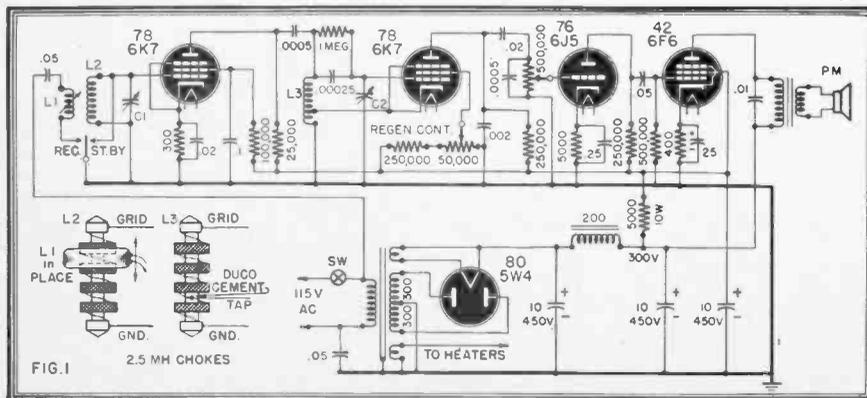

Fig. 1—Coils for the 200-kc. receiver are constructed from 2.5-millihenry R.F. chokes.
The receiver, shown in Fig. 1, uses a regenerative detector, one stage of R.F. and two stages of audio. It is built on a 7 x 7 x 2 chassis in a plywood cabinet with Masonite panel.
**B**ECAUSE of the difficulty of designing a loud-speaker which will function efficiently over a wide frequency range, it has been common practice in FM radios and movie sound work to use a "woofer" for the lower frequencies and a "tweeter" for the highs. The tweeter is generally a low-power unit since the high frequency sound energy is small in comparison with the low. The woofer is a rugged, heavy-duty unit. The job of dividing the electrical energy into two paths falls to the dividing network. A simple type of network is shown in Fig. 1. R is the voice coil resistance or speaker resistance in ohm, C is the capacity in farads and  $f_x$  is the crossover frequency in cycles. L is the inductance in henries.
The circuit action is easy to visualize. A condenser is connected in series with the high-frequency speaker. Since condenser reactance decreases as frequency rises more high frequency current gets through to the tweeter than low frequency current, thus favoring the highs so far as the tweeter is concerned. Also note that in Fig. 1 a coil is connected across the high frequency speaker terminals. Thus the shunt current through the coil will be greater at the lower frequencies, since the coil has low reactance at these frequencies. As the frequency rises the coil current is decreased and the current in the high-frequency speaker rises. The opposite action occurs so far as the low frequency or woofer speaker is concerned. It has a condenser in parallel with it. The shunt reactance of the condenser decreases as the frequency is raised, shunting away an ever greater amount of current from the woofer at higher and higher frequencies.
Still another form of dividing network is shown in Fig. 2. The action here is somewhat the same as in Fig. 1, but note that as  $X_c$  decreases not only is there less opposition to the flow of high frequency signal current in the tweeter, but also an increased shunting of high frequency current away from the woofer—through the condenser and tweeter. The choke coil L opposes the high frequency current but offers relatively little opposition to the lower frequencies. Note that, looking into the input terminals of this network at a particular frequency, we may run into parallel resonance. At such a frequency the load on the source connected to the input will drop and the output voltage of the source will rise, which may cause feedback and oscillation in an amplifier system. The damping action of the speaker resistances, however, would tend to decrease the Q of the resonant circuit and to give a broad peak, so that in all probability the resonant build-up would be so small as to call for no design features to overcome it.
The type of network shown in Fig. 3 is sometimes used. The C and L values are equal. This circuit is somewhat similar to the basic type in Fig. 1, but here we have added capacitive and inductive elements in series with tweeter and woofer, thus enhancing the sharpness of cross-over and the frequency discriminating properties of the complex network. The basic action remains the same, series inductance cutting down the highs and favoring lows, series capacitance highs, shunt capacitance cutting highs, shunt inductance raising highs.